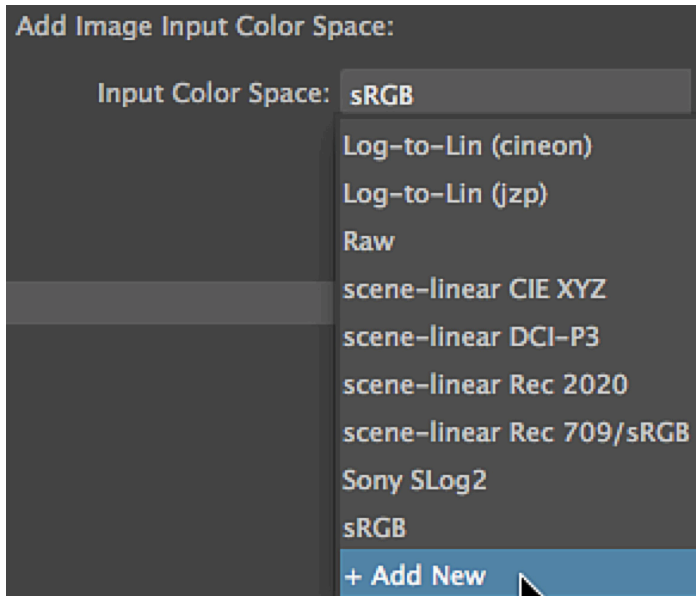

Figure 34
2. The default workflow assumes that you are using sRGB texture images; if not, you'll need to customize this setting. Customization can be a modified default, used when all your imports are in another color space such as Adobe RGB (Figure 34). Then, if you have an occasional file you've imported that is in another color space, you can customize its color handling by activating Ignore Color Space Input Rules in the item's settings.